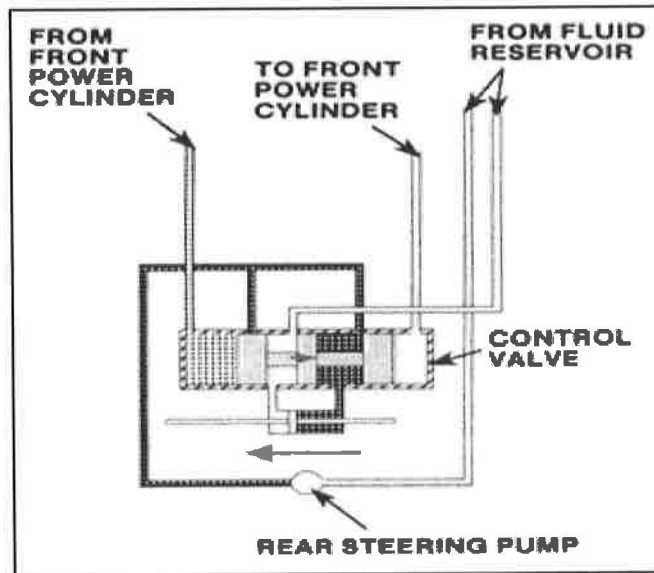

Figure 2: Four-wheel-steering Control Valve
- i) Referring to the Figure 2, state the status of the rear steering power cylinder. (2marks)
- ii) Explain how the spool valve operates inside the control valve in figure 2. (10marks)